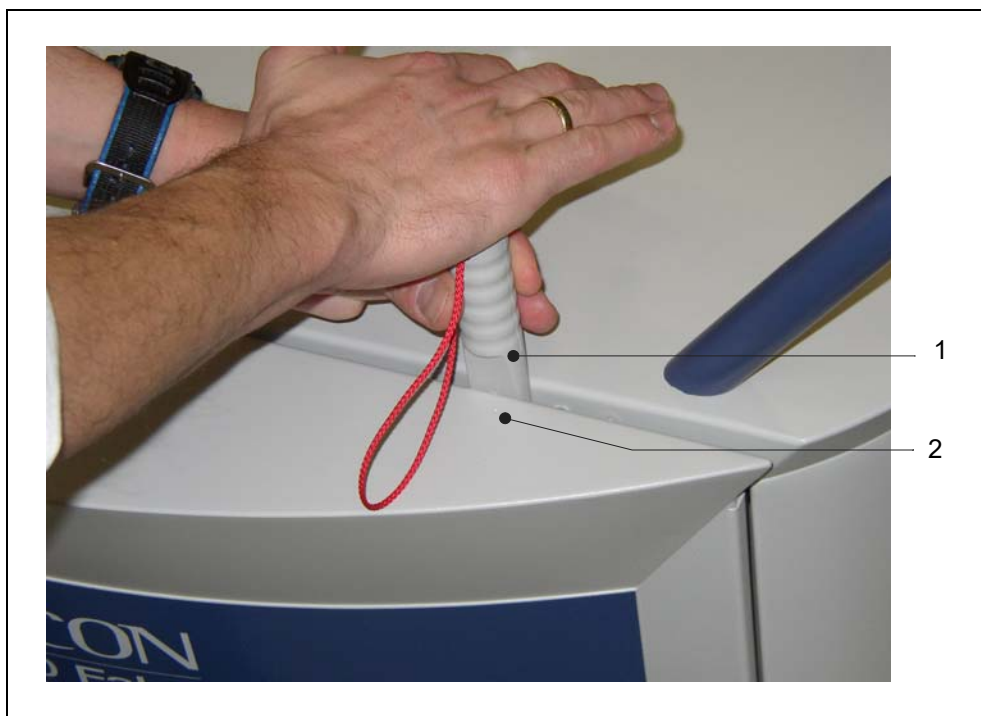

Fig. 9-1 Opening the UL1000 and UL1000 Fab
- The correct position where to apply the side wall separator is marked by a dent on both the covers. For this refer to Fig. 9-1/2.